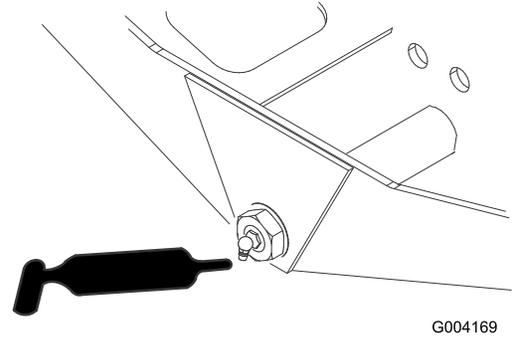

Figure 58
- Axle steering pivot (1) (Figure 58)